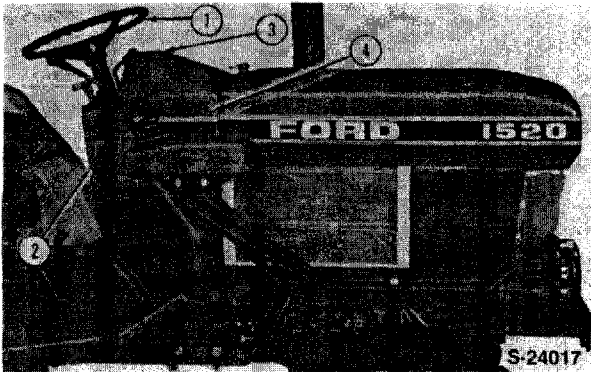

Figure 12
5. Remove the steering wheel, Figure 12.
12. If equipped with remote control, Figure 12, remove the control valve, mounting stand and tubing as an assembly, Figure 12.